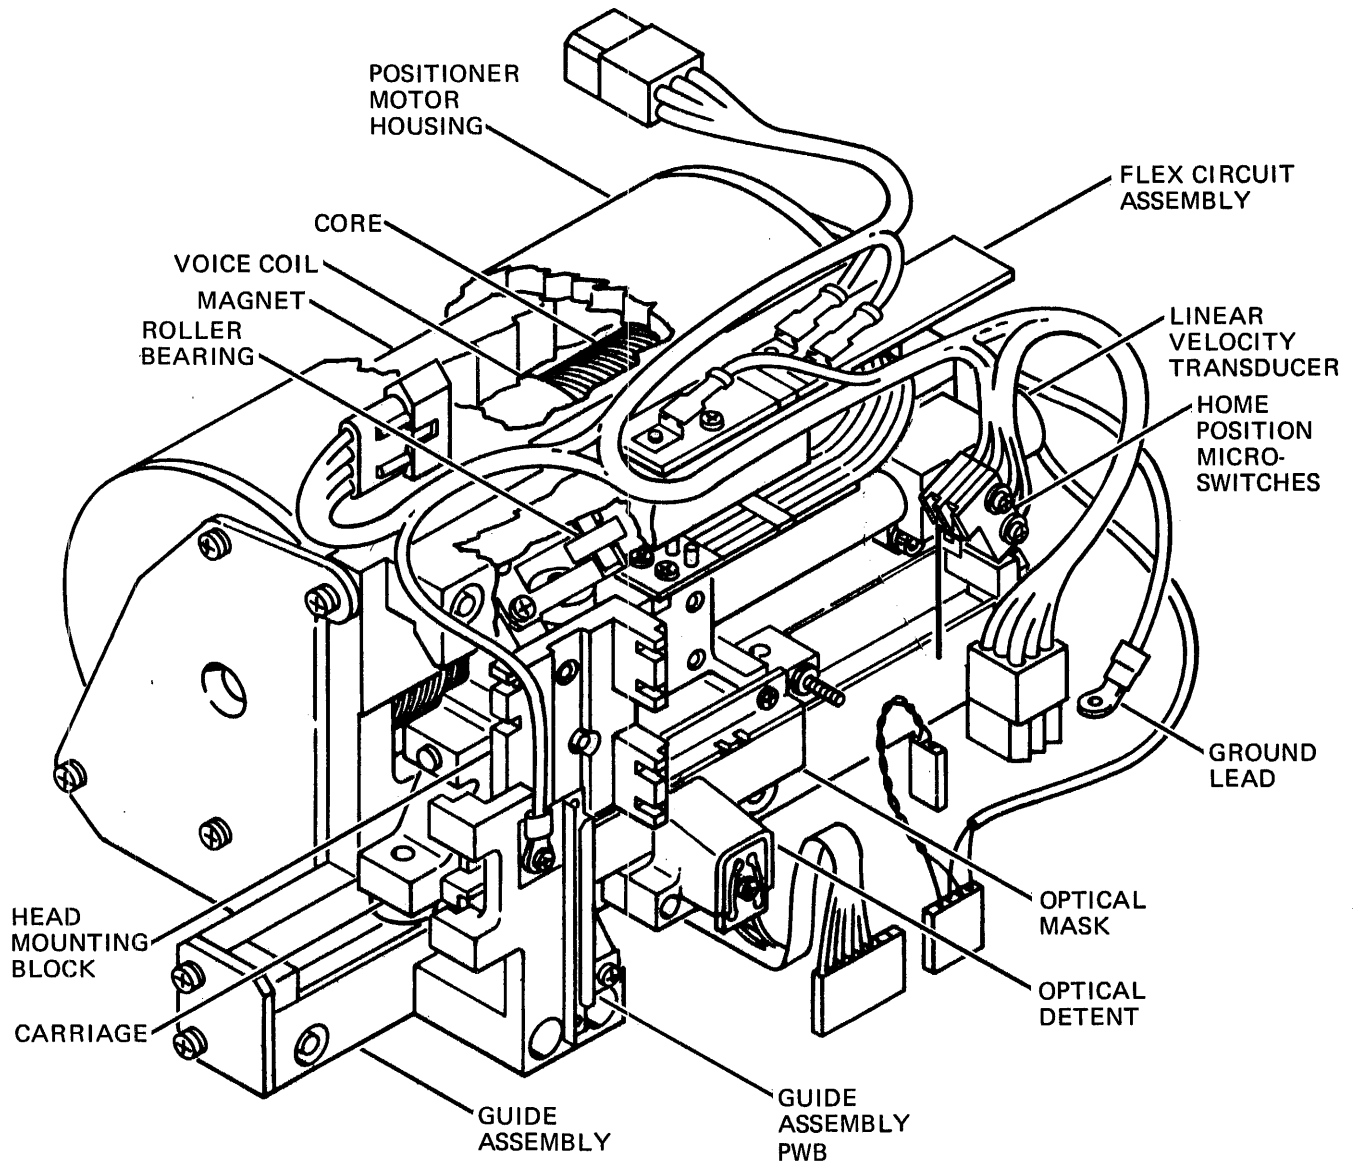

Figure 4-3. Positioner Assembly
4.3.1.3 Head Positioning Servo System. The head positioning servo system drives the carriage assembly by moving the heads over the surface of the disc and detents (locks) the Read/Write heads over the designated (or addressed) concentric recording track. Figure 4-3 shows the positioner and its components. The head positioner is a linear electromagnetic actuator driven by an electronic servo system.